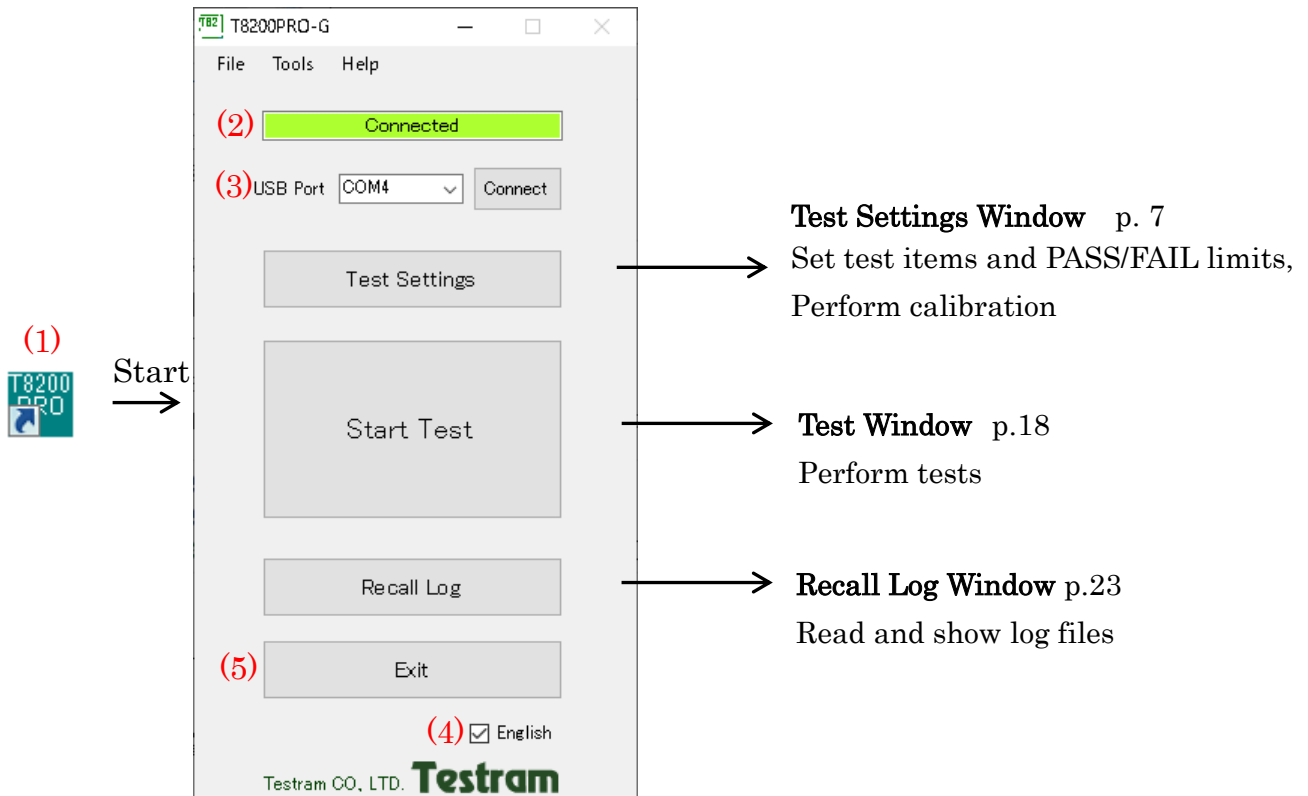

Figure 5 Top Menu Window
Start the **T8200PRO-G** software by double-clicking the desktop icon. The **Top Menu** (Figure 5) appears. Various windows are invoked from this menu.
- (1) Start** Double-click the **T8200PRO** icon on the desktop to start the software. The **Top Menu** (Figure 5) appears.
- (2) USB Status** Confirm that **Connected**, meaning the software and **T8200PRO-G** is connected, is shown. If the connection fails, “Not connected” will be shown.
- (3) USB Port** If **Not connected**, select **Auto Select** for **USB Port**, and press the **Connect** button. If it doesn't work, confirm the following:
- (4) Language** Switch the language: English/ Japanese
- (5) Exit** Finish the software.